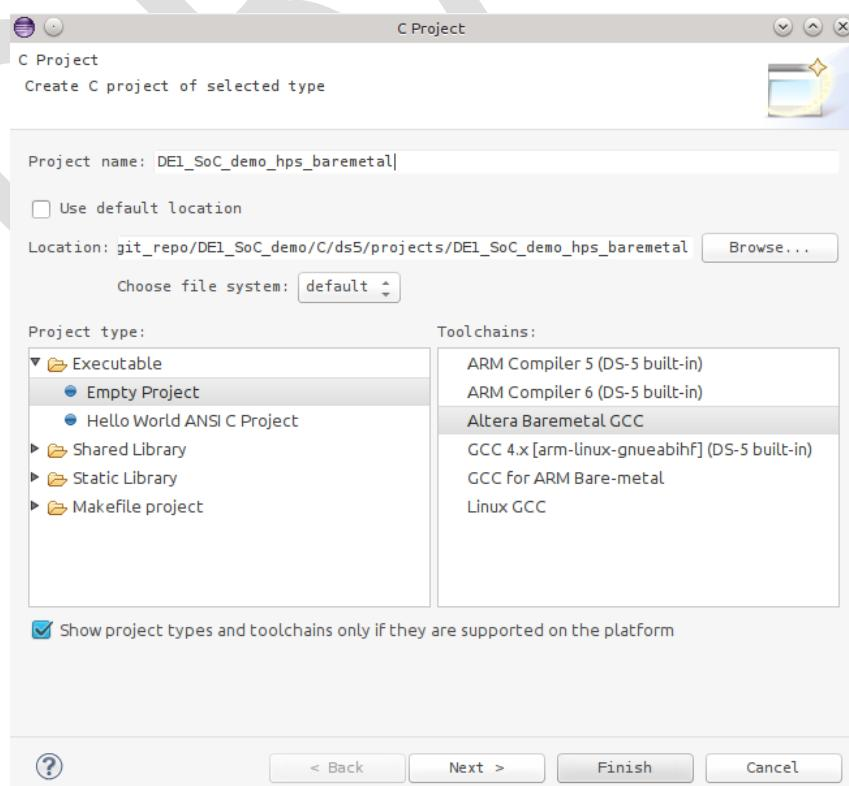

Figure 8-27. New C Project Dialog
- You should have something similar to Figure 8-27. Then, press the “Finish” button to create the project.